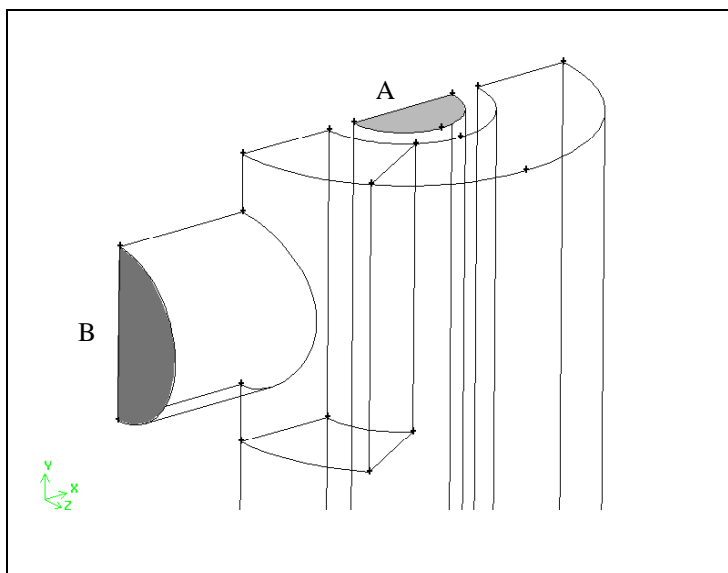

Figure 7-44: Faces to set as inlet, outlet, and wall boundaries
- iv. Shift-left-click the face marked A in Figure 7-44 and accept the selection.
iii. Select the face marked B in Figure 7-44 and accept the selection.